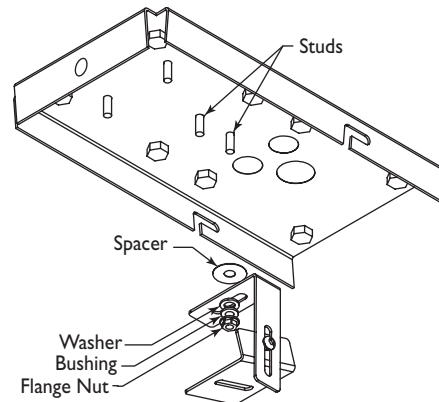

Figure 9 Securing the Mount System
2. Reattach the camera mounting system to the top panel using the 6-mm flange nut, nylon bushing, $\frac{5}{16}$ -in washer, and nylon spacer. Use either stud provided, depending on the camera size and mounting configuration. See **Figures 9 and 10**.